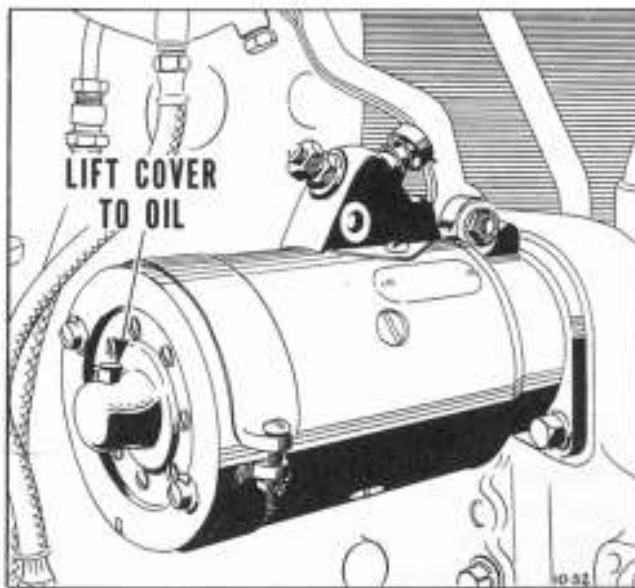

Fig. 3—Starter
**STARTER**—Lift oil cup cover and fill cup with a seasonal engine oil every 1000 miles. Lightly oil operating lever frictional points. (Fig. 3)